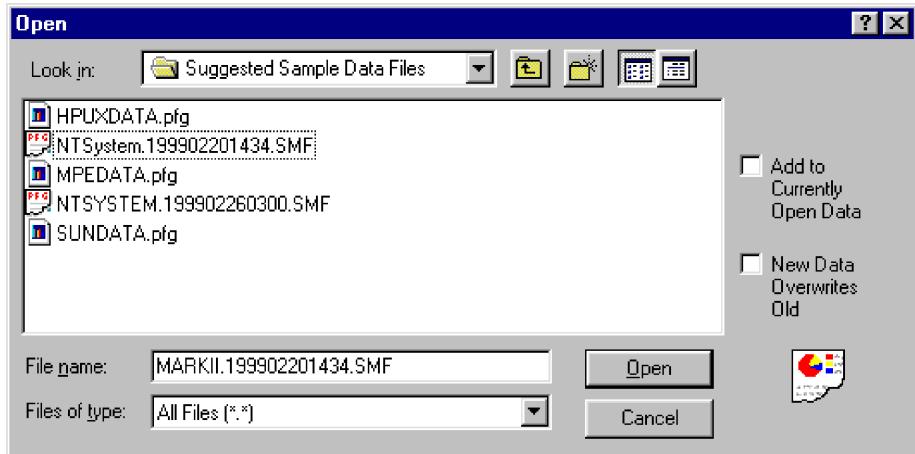

Figure 5.2 *Open Data File dialog box*
- 1 On the **File** menu, click **Open Data File**. The **Open** dialog box displays (see Figure 5.2).